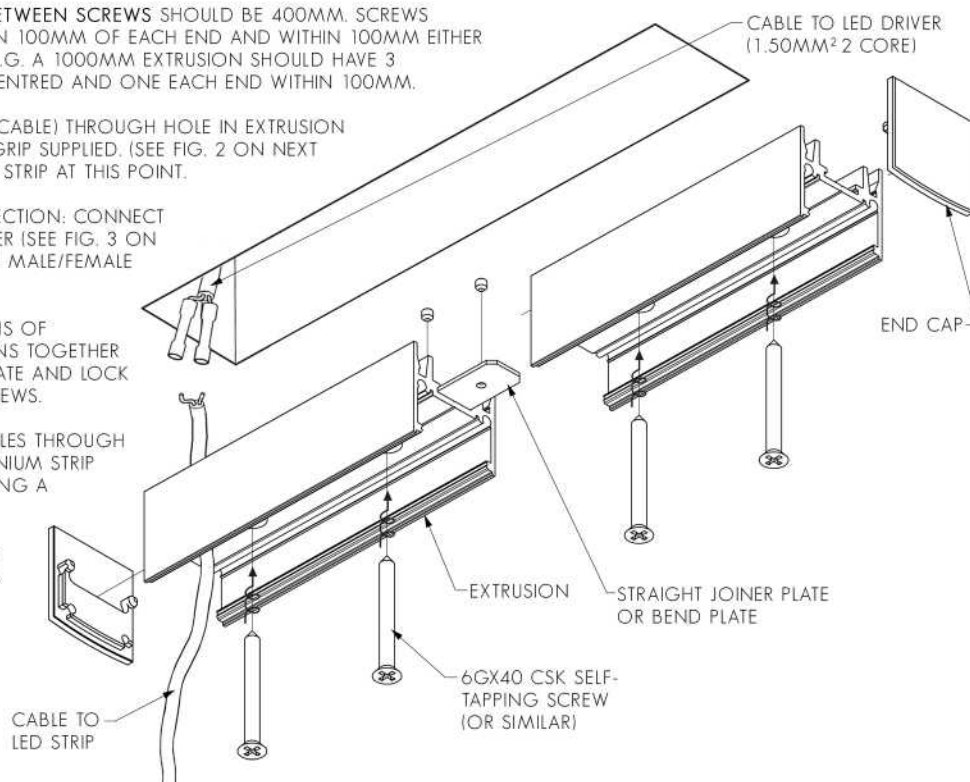

FIG. 2 - FASTEN CABLE USING CORD GRIP
1. FEED LED STRIP TAILS (OR CABLE) THROUGH HOLE IN EXTRUSION AND CLAMP USING CORD GRIP SUPPLIED. (SEE FIG. 2 ON NEXT PAGE). DO NOT INSTALL LED STRIP AT THIS POINT.